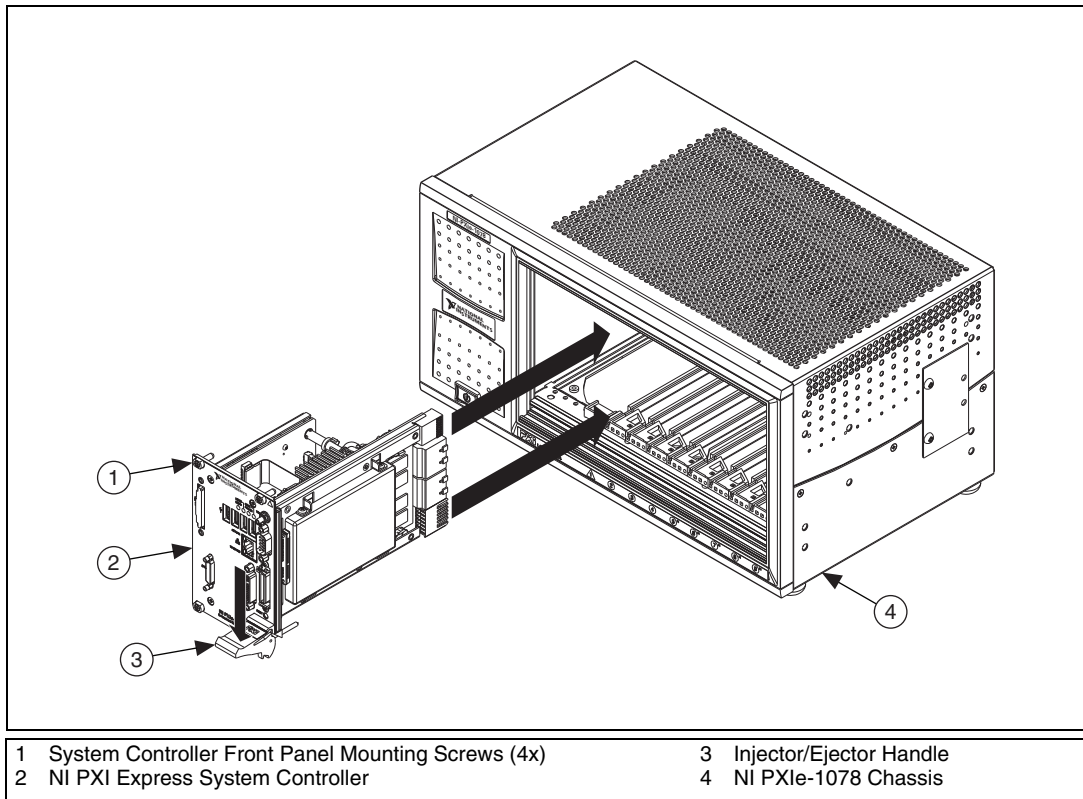

Figure 2-4. Installing a PXI Express System Controller
3. Install the system controller into the system controller slot (slot 1, indicated by the red card guides) by first placing the system controller PCB into the front of the card guides (top and bottom). Slide the system controller to the rear of the chassis, making sure that the injector/ejector handle is pushed down as shown in Figure 2-4.